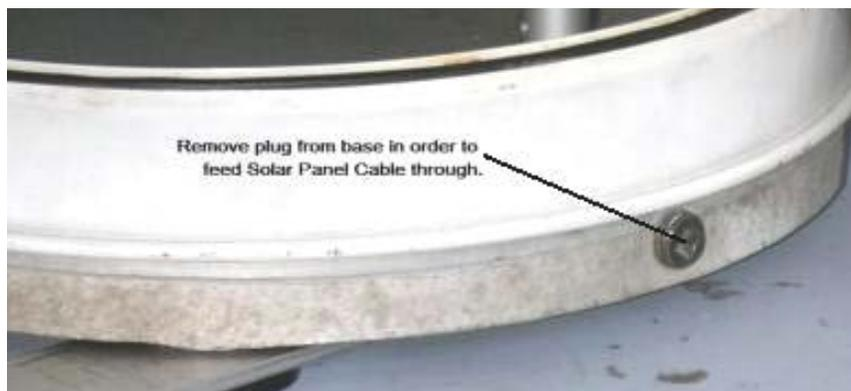

Figure A-13: F&P Gauge Base
4. Locate and remove the plug from the lower right of the F&P gauge door on the F&P gauge base (see Figure A-13).